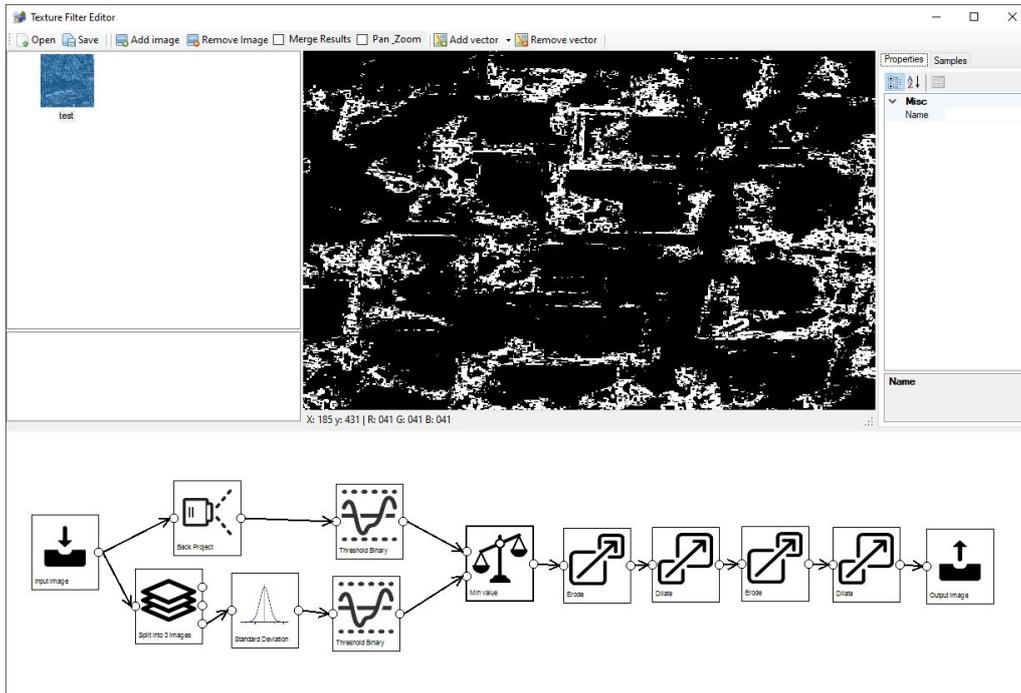

Figure 6.20: Minimum value of the standard deviation and detected vegetation
7. Minimum value of the vegetation detection and standard deviation threshold values. This means that areas with a low standard deviation are excluded from the vegetation detection. This is done to detect less grass areas. See Figure 6.20.